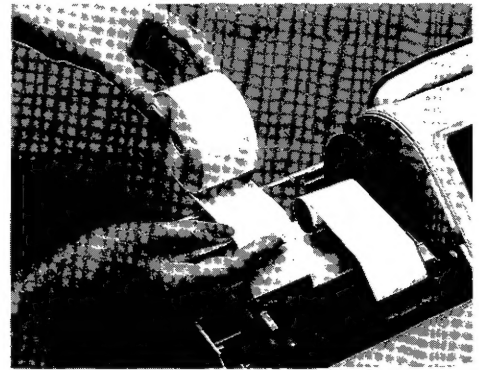

Fig 1-2.
1. Place the paper roll in its housing so that its leading edge can be pulled up from the bottom (Fig. 1-2).